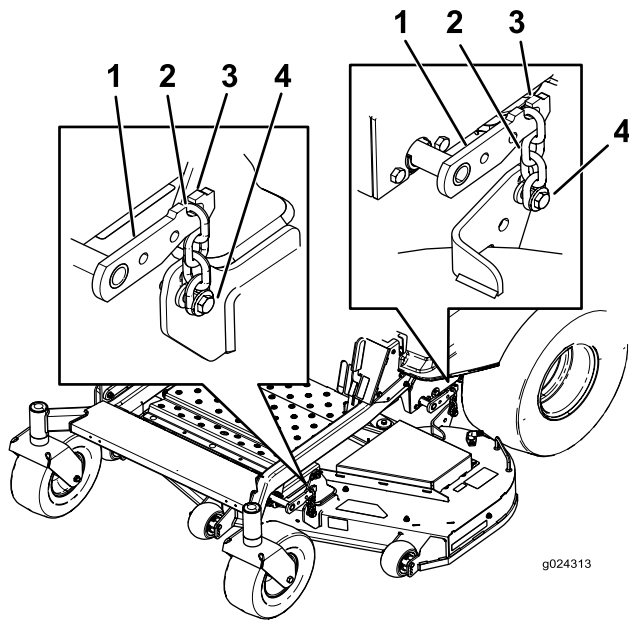

Figure 61
5. Loosen the adjustment bolts on all four corners so that the deck is sitting securely on all four blocks (Figure 61).
6. Ensure there is tension on all four chains(Figure 61).
7. Tighten the four adjustment bolts(Figure 61).